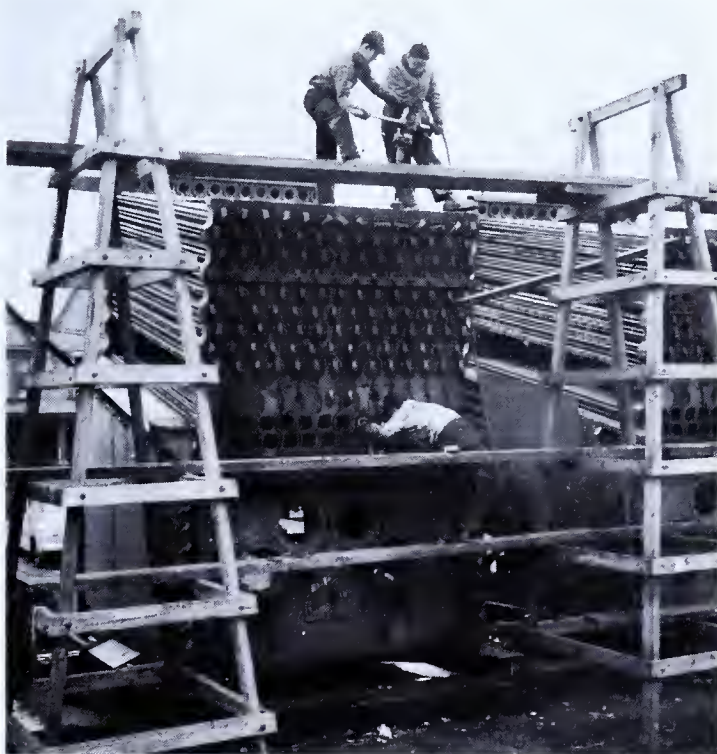

FIG. 478 — Expanding Mud-Drum Nipples
22. Start the expanding machine to rotate slowly in a clockwise direction. Fig. 478.